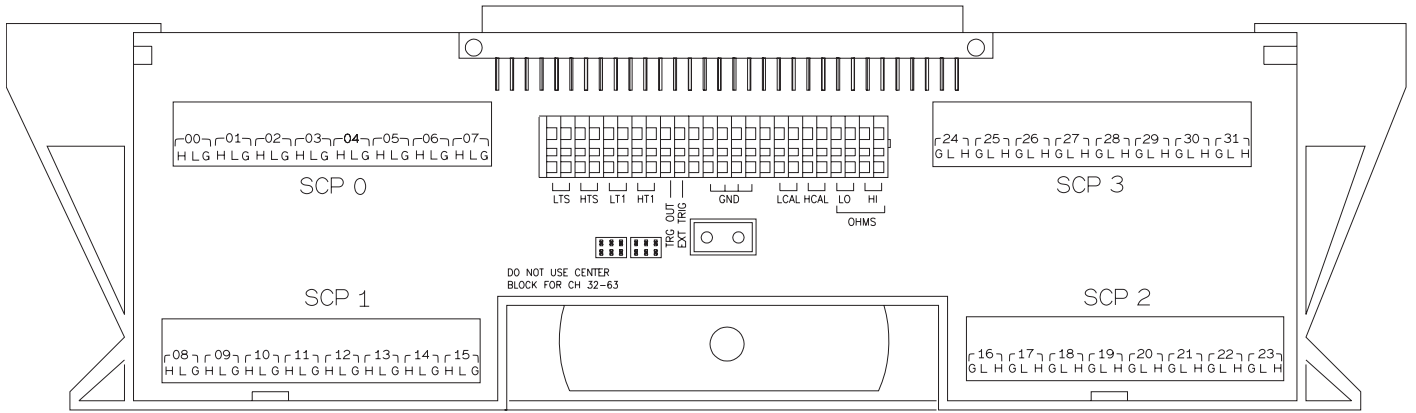

Figure 2 VT1502A B-size Terminal Module Connections (Ch 00-31)
- For Agilent/HP E1313 Terminal Modules, use stickers for VT1502A SCPs. The connections are shown in Figures 2 and 3.